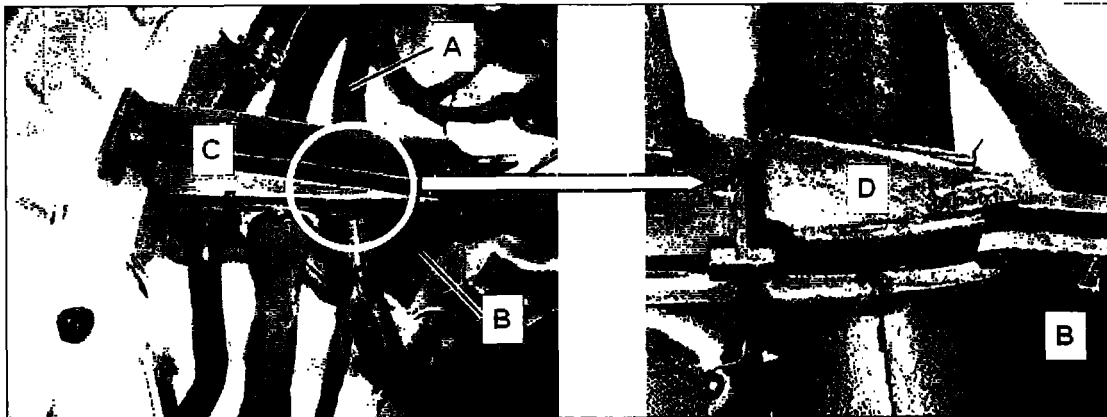

Figure 14
16. Remount the SBC wiring harness (A, Figure 14) in the wire harness guide (B):
- Remove wire guide cover (C) and remove SBC wiring harness with grommet (D) from harness guide (B).
- Reinstall top of wire harness guide (C, Figure 14).